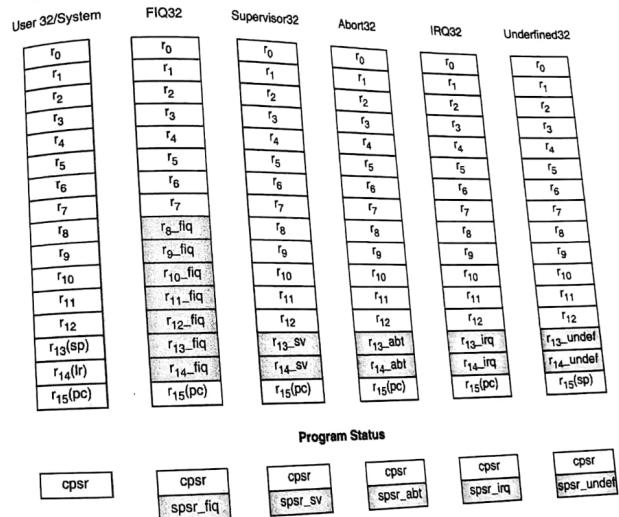

Fig. 11.4.1 : ARM programming model
- Fig. 11.4.1 shows the programming model of the ARM processor. The ARM processor has 37 thirty two bit registers.
Fig. 11.4.1 shows the programming model of the ARM processor.
**(1) General purpose registers**
**(2) Stack Pointer (SP-R13)**
- Register R13 is a stack pointer as shown in Fig. 11.4.1.
**(3) Link Register (LR-R14)**
**(4) Program Counter (PC-R15)**
**(5) Registers R0-R7**
**(6) Registers R8-R14**
- Out of 37 registers, only 20 registers which are shown shaded in Fig. 11.4.1 are used as banked registers.
- Fig. 11.4.1 also indicates the mode of the bank registers. Banked registers of a particular mode are denoted by r number\_mode e.g. abort mode has banked registers r13\_abt, r14\_abt and spsr\_abt.